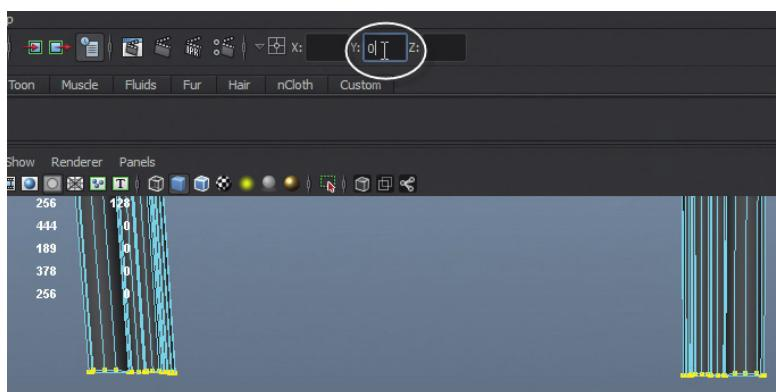

FIG 3.84 Using the Absolute Values to flatten the vertices at the bottom of the trim.
Step 22: Flatten the bottom of the trim. This can be done several ways; for now, select all the vertices that are on the bottom of the door and in the very top of the interface, toward the right side look for three input fields titled X, Y, and Z. These represent “Absolute Values.” Enter 0 and hit Enter in the Y input field (Fig. 3.84).